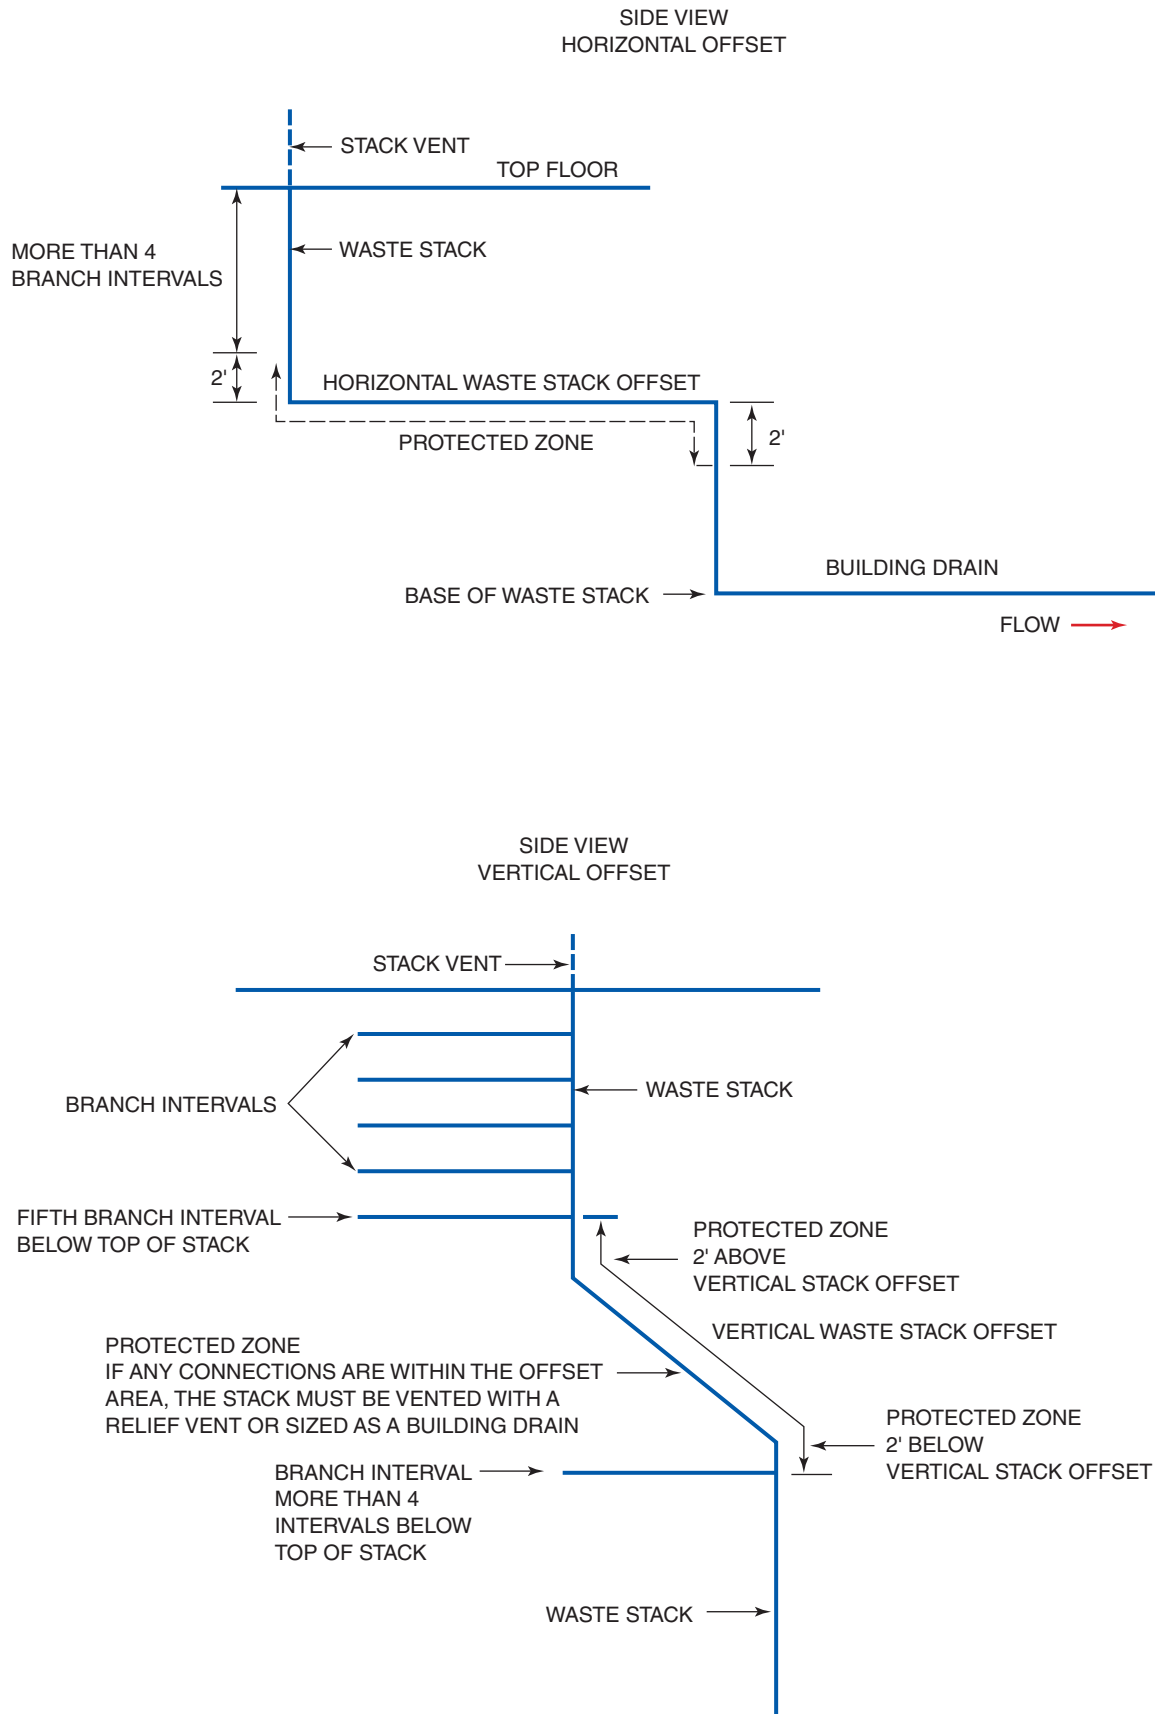

FIGURE 13-24 Offset in waste stack.
the differences in allowable dfus for a particular pipe size based on its vertical or horizontal position and the IPC code. Columns in Figure 13-19 are based on the slope of pipe because it refers to horizontal pipe. Columns in Figure 13-20(A) relate to branches and different intervals of a waste stack because it is concerned with horizontal branches connecting to a vertical stack (see Fig. 13-24 for IPC sizing and code issues for a waste stack that is offset horizontally). Both charts in Figures 13-19 and 13-20(A) indicate the maximum dfus a particular segment can handle without increasing the pipe size.
of which require the installation of a relief vent. Figure 13-24 illustrates a waste stack that transitions horizontally. A cleanout must be installed at the base of a waste stack. Some codes might dictate that the base of a stack cleanout must be installed above the highest fixture located on the floor where the cleanout is installed.